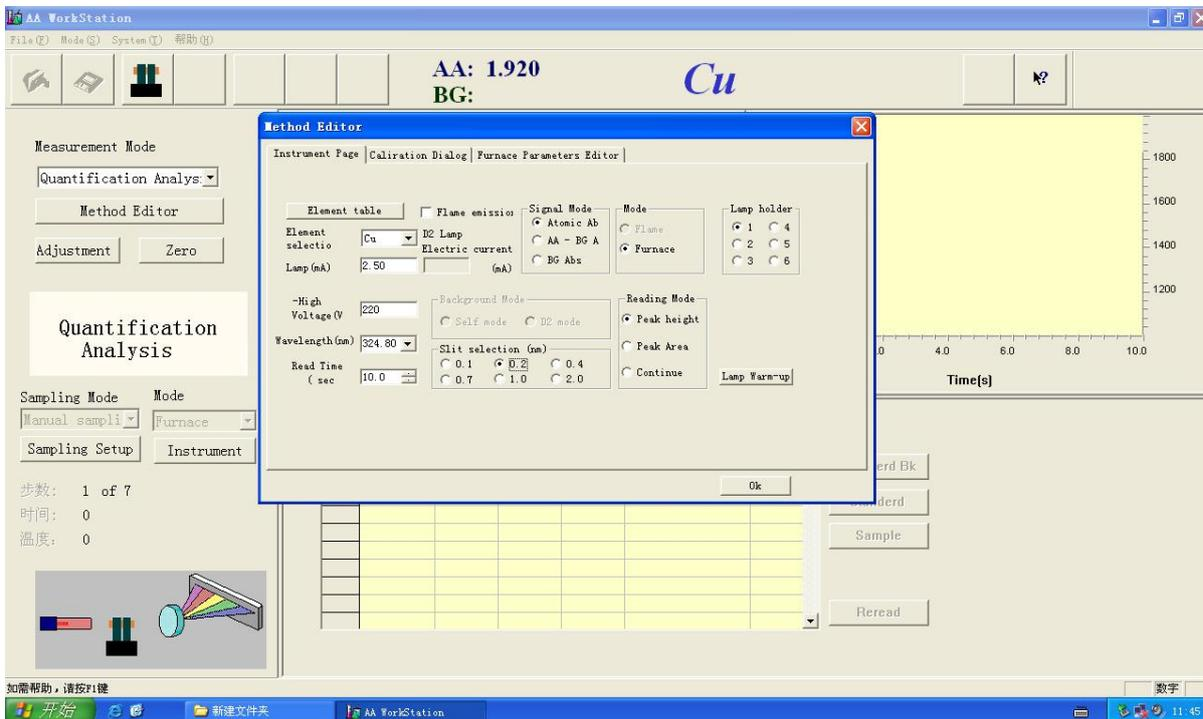

Figure 4-19
- a. Select the "Atomic Abs" (Figure 4-19), "D2 lamp electric current" is gray, background mode is also gray,"Flame Emission" is valid (check it or not).